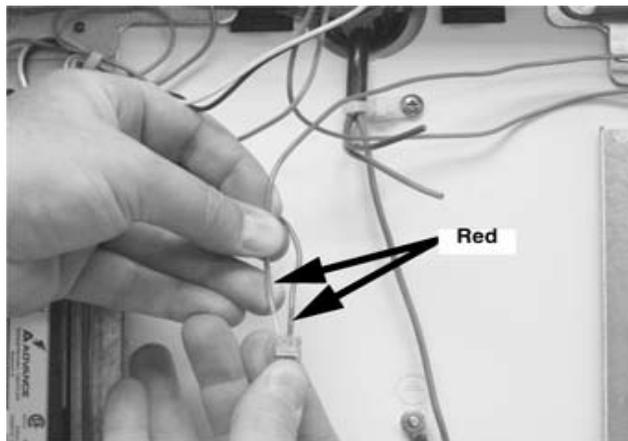

Figure 79.
- C. Press the socket-red wire into the connector, as shown Figure 79 .